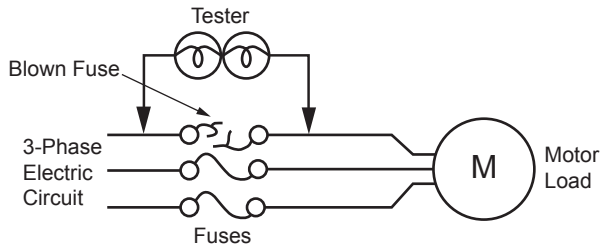

Figure 2.
**Testing a Loaded Circuit. Figure 2.** If the circuit is connected to a load, for example a 3-phase electric motor, test on both sides of each fuse. If bulbs light up, the fuse is open.